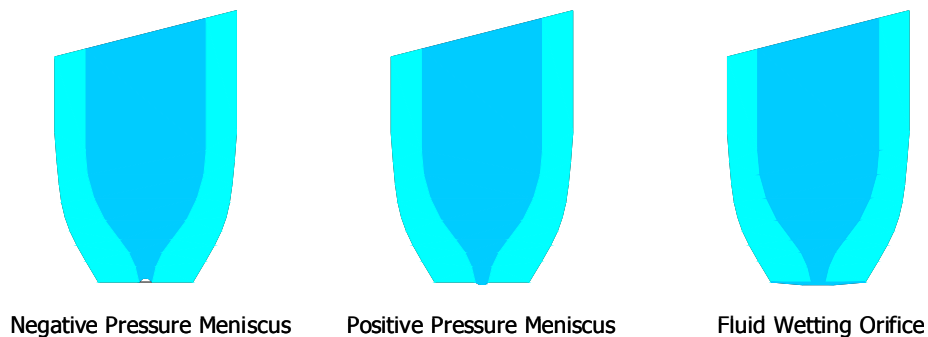

Figure 9 - Meniscus variations
3. Switch the pneumatics panel from Purge to On to transfer control to the fine adjust pressure regulator. Adjust the large, fine adjust, regulator until the fluid meniscus is flush with the device frontal face. Often a lint free swab is useful in cleaning the front face of the orifice in order to verify the pressure level. Figure 9 shows possible situations that arise at the orifice.